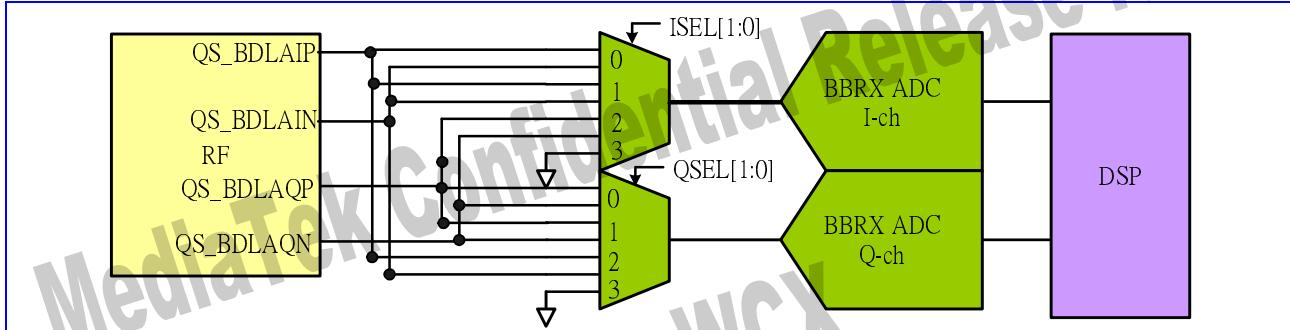

Figure 58 Base-band A/D Offset Calibration
The base-band downlink receiver (RX) provides analog hardware for DSP algorithm to correct the offset error. The connection for measurement of RX offset error is shown in Figure 58, and the corresponding calibration procedure is described below.